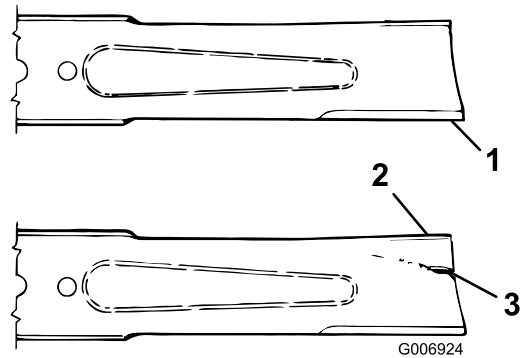

Figure 70
2. Examine the cutting ends of the blade carefully, especially where the flat and curved parts of the blade meet (Figure 70). Since sand and abrasive material can wear away the metal that connects the flat and curved parts of the blade, check the blade before using the
machine. If wear is noticed (Figure 70), replace the blade; refer to Removing the Cutter Blade.
If the blade is allowed to wear, a slot will form between the sail and flat part of the blade (Figure 70). Eventually a piece of the blade may break off and be thrown from under the housing, possibly resulting in serious injury to yourself or bystanders.